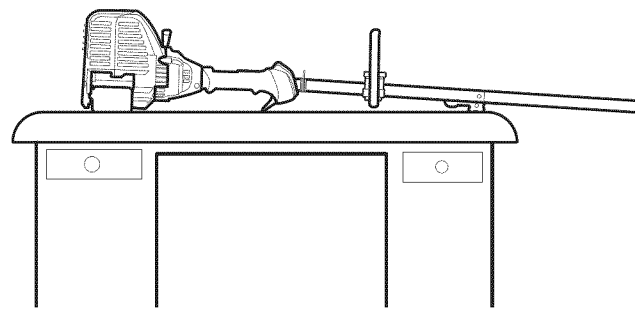

Fig. 26
2. **Set the unit on a flat, level surface**, such as a workbench or table. The cutting head shield should hang over the edge so that the engine is level (Fig. 26).